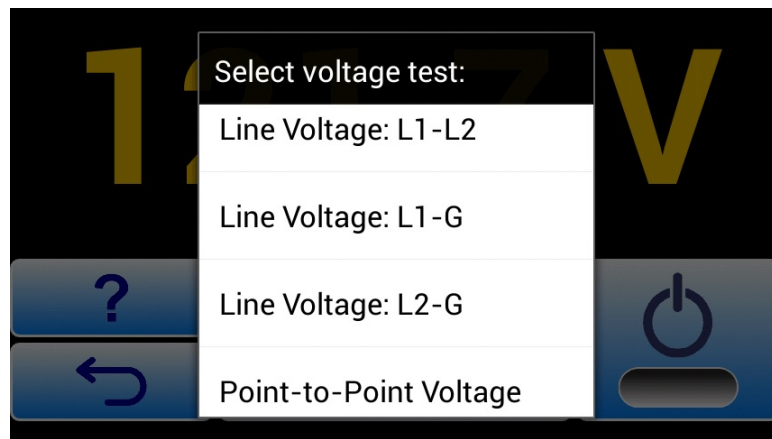

Figure 8
- 2.3.3 When the central button is pressed, a pop-up pick list is then shown which allows the user to change the type of measurement, **Figure 8**.
As shown in **Figure 8**, this list provides four measurements: L1-L2; L1-GND; L2-GND and point-to-point voltage. The nomenclature of the pick list depends on the standard which has been selected via the Settings Menu of Section 2 (AAMI and NFPA standards measure "line" voltages; IEC standards measure "mains" voltages).